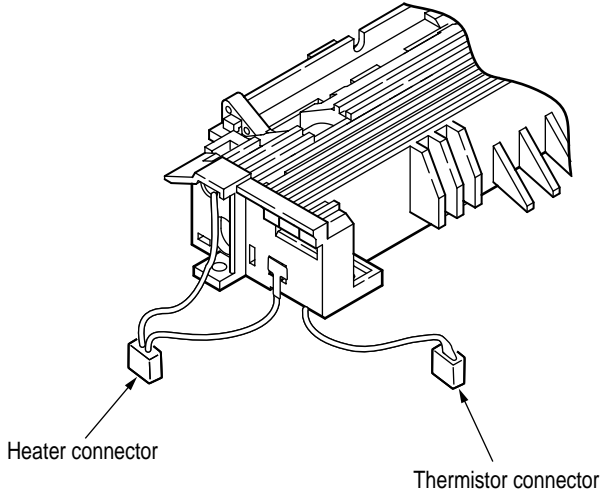

Figure 5-2
- ▼ Yes Is the thermistor open or shorted? Measure the resistance between thermistor contacts (heater contacts 120V/2Ω or 240V/7Ω, and thermistor contacts 200KΩ at room temperature) (see Figure 5-2).
- ▼ No Is the AC voltage being supplied to the connector for the heater of the power supply board? (see Figure 5-2)